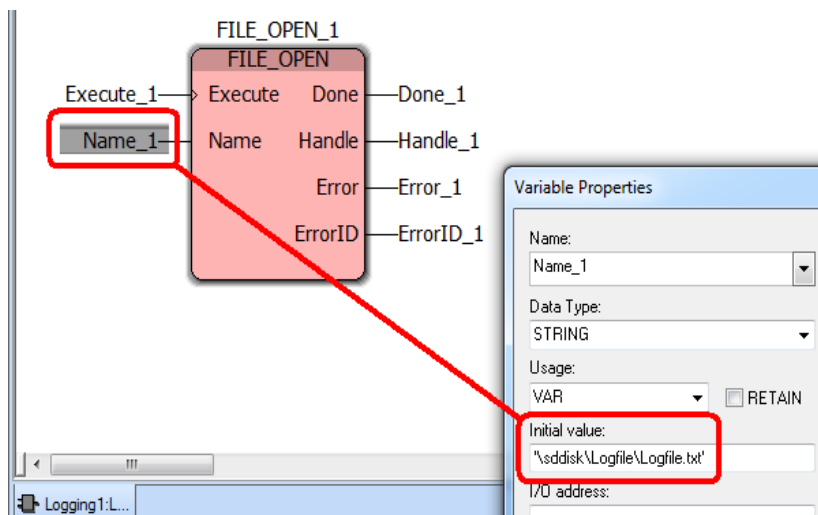

Figure 3-23 Opening the “Logfile.txt” file via the FILE\_OPEN function block
Figure 3-23 shows a FILE\_OPEN function block for opening the “Logfile.txt” file in the “\sddisk\Logfile” directory.
- In the “Variable Properties” dialog, (seen on the right in Figure 3-23) always enter the full path and file name.